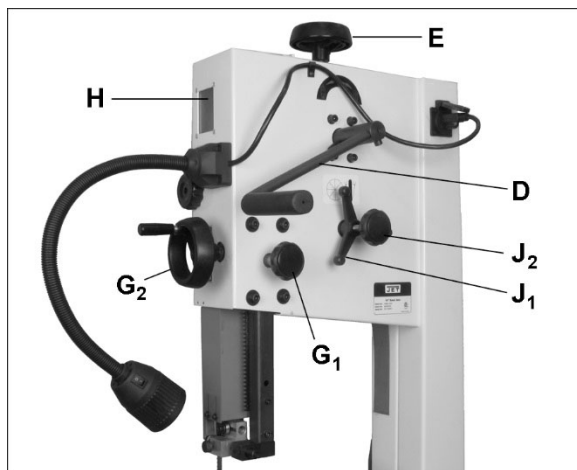

Figure 5-7 (shown with optional lamp)
4. Raise quick tension lever (see D, Figure 5-7) to release position. If needed, rotate tension handwheel (E, Figure 5-7) counterclockwise for further detensioning.
Refer to Figures 5-7 and 5-8.
1. Lower tension lever (D, Figure 5-7) to tension position.
2. Set proper blade tension by rotating handwheel (E, Figure 5-7), clockwise to tighten, counterclockwise to loosen.
4. Loosen guide post locking knob (G1, Figure 5-7) and use handwheel (G2) to lower guide post until you can see blade through tracking window (H).
7. If blade tends to migrate toward left or right edge of wheel, loosen locking handle (J1, Figure 5-7) counterclockwise, and rotate tracking knob (J2) with your right hand while continuing to rotate wheel with your left.
3. Lower blade tension lever (see D, Figure 5-7) to tension position.